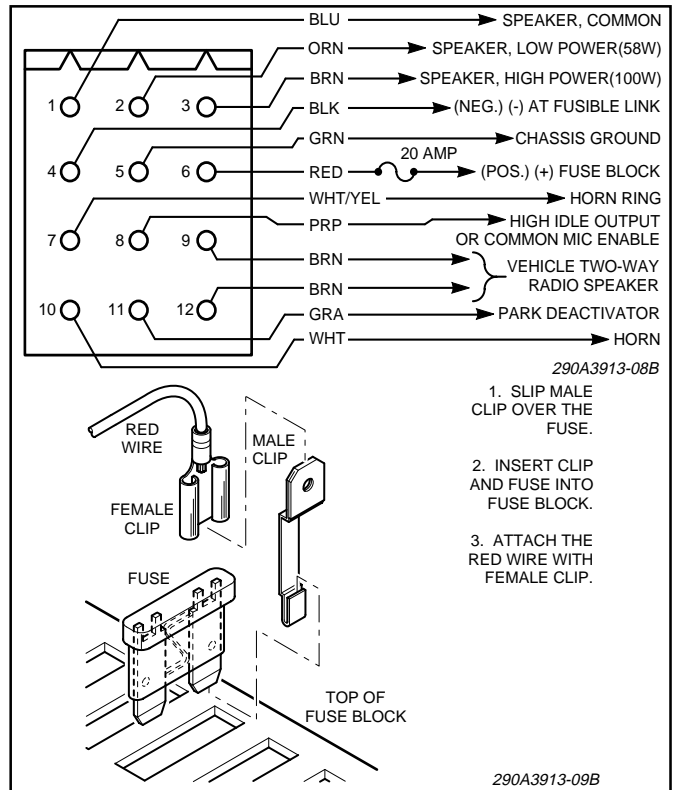

Figure 3-6. Amplifier Unit Power Cable and Fuse Clip Adapter Installation.
The unit is designed to operate with one 11-ohm impedance speaker or two 11-ohm impedance, low power (58W) or high power (100W), speakers connected in parallel and in phase. On Federal speakers, this can be accomplished by connecting the two speaker leads marked "1" to the SPEAKER COMMON power cable lead and the two speaker leads marked "2" to the SPEAKER HI POWER or SPEAKER LO POWER power cable leads. See figure 3-6.
Using 18 gauge wire, connect the speaker leads (58W speakers to SPEAKER LO POWER or 100W speakers to SPEAKER HI POWER) as shown in Power Cable Wiring Diagram, figure 3-6.
See figure 3-6. To use this feature, connect the power cable's gray wire to a vehicle circuit that is grounded when the vehicle is shifted into PARK.
7. Connection to Power Source (see figure 3-6).
Route the red (+) power cable lead to the fuse block or user-supplied switch. When the red (+) power cable lead is routed to the fuse block, install the supplied fuse clip adapter as follows (see figure 3-6):